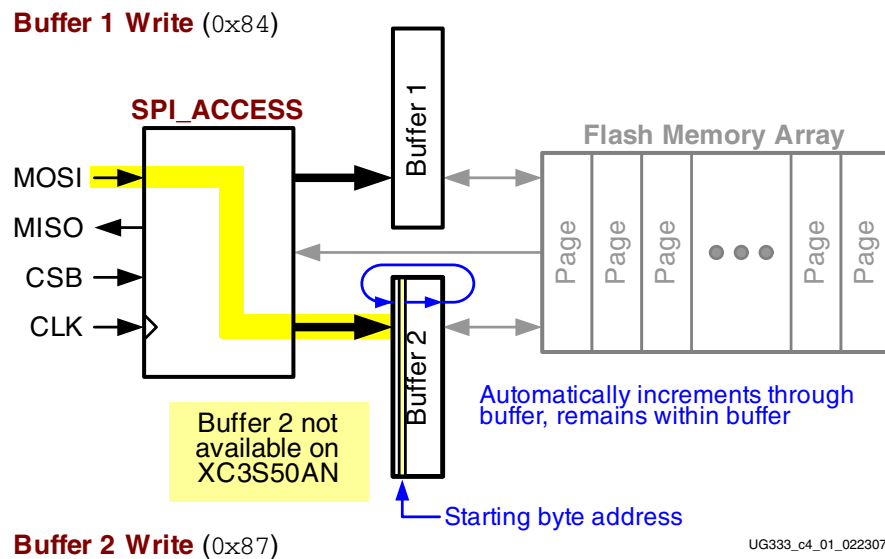

Figure 4-1: Buffer Write Command
- ♦ The starting byte location can be anywhere within the selected SRAM page buffer, as shown in Figure 4-1.
- ♦ While CSB is Low, present new data on the MOSI pin on every subsequent falling CLK edge. The ISF memory automatically increments the implied address counter through the SRAM page buffer, as highlighted in Figure 4-1.
This operation combines the Buffer Write (Figure 4-1) and Buffer to Page Program with Built-in Erase (Figure 4-2) operations. The FPGA application must specify a full 24-bit address, including both the Page Address and the starting Byte Address within the SRAM page buffer.
- ◆ The starting byte location can be anywhere within the selected SRAM page buffer, as shown in Figure 4-1.